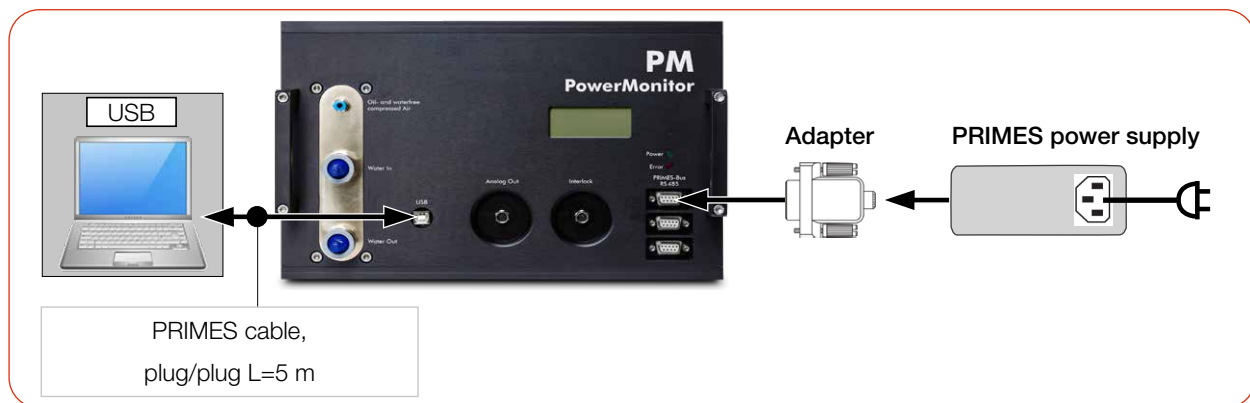

Fig. 8.4: Power supply via PRIMES power supply, data transfer via USB (using the PM 100 as example)
- Connect the cables according to Fig. 8.4 on page 28.